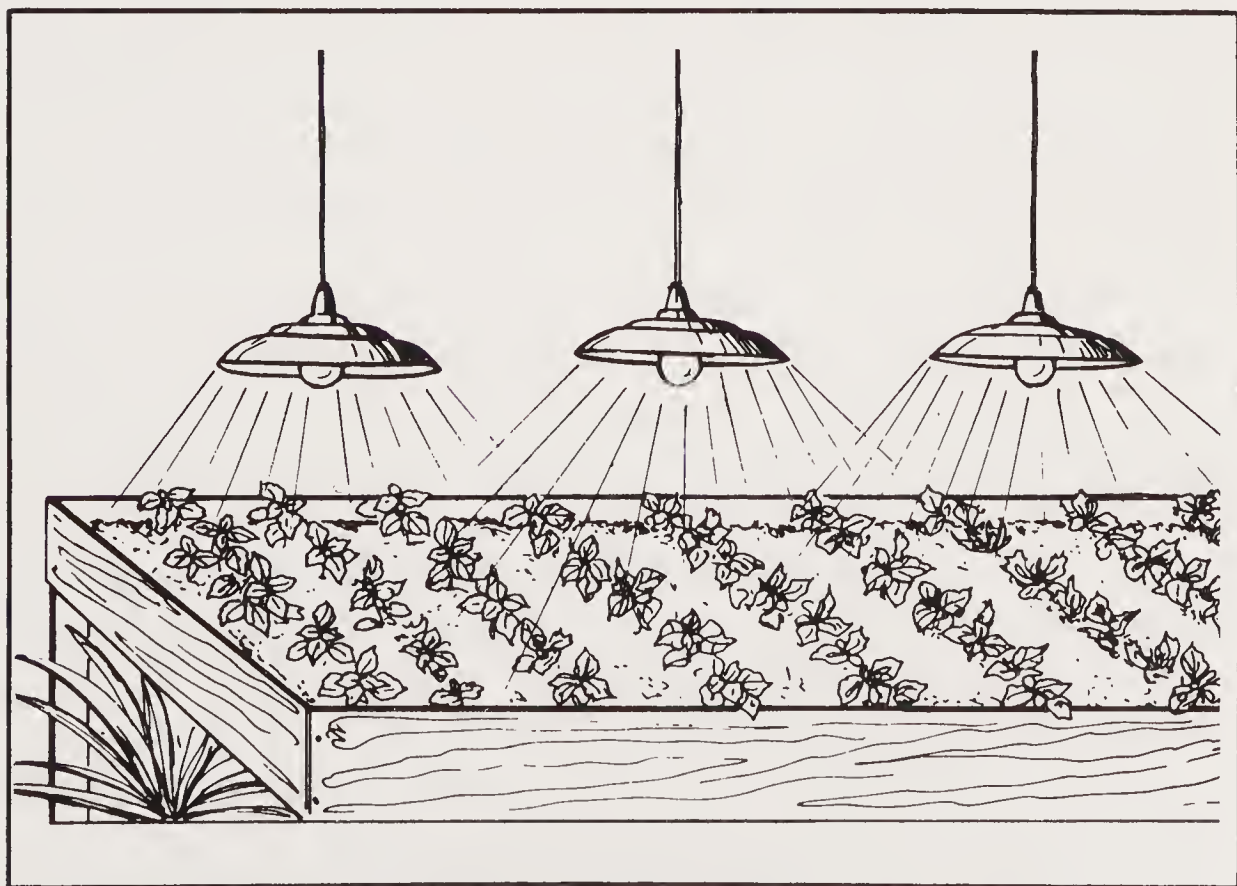

Fig. 4-17. Incandescent lights (courtesy of Kathleen Bourke, Lord & Burnham Co.).
**Incandescent Lights.** Incandescent lights can be used in the fall and winter on long days. Install one reflector with a 60-watt incandescent bulb every 4 to 5 feet of bench space. Plug this into an automatic timer set to turn the lights on at 5 p.m. and off at 10 p.m. daily. Generally, this supplmentary light is provided from the time seedlings or young plants are making vigorous active growth until the flower buds are beginning to open (Fig. 4-17).